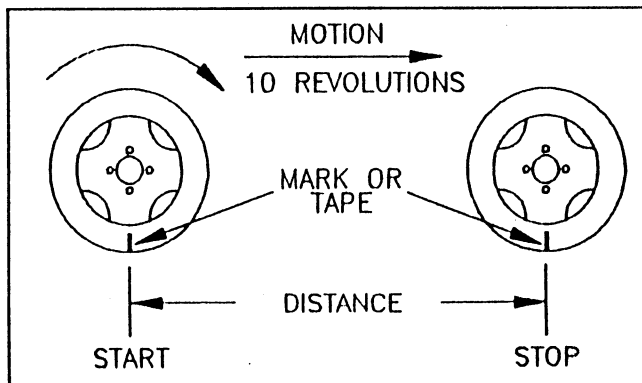

Fig. 4
1. Place chalk mark or tape on vehicle tire, on which Speed Sensor is mounted. See FIG. 4